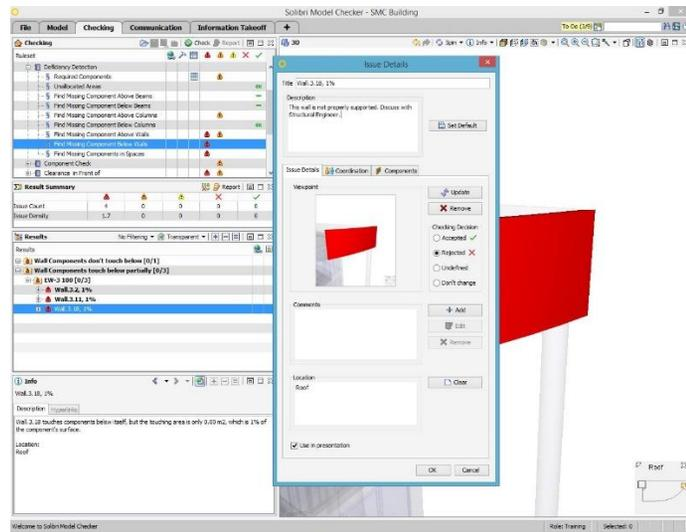

Figure 57 Issue Details window
(14) In the **Issue Details** pop-up window you can give the Issue a name in the **Title -field** and describe it in the **Description -field** (see Figure 57).